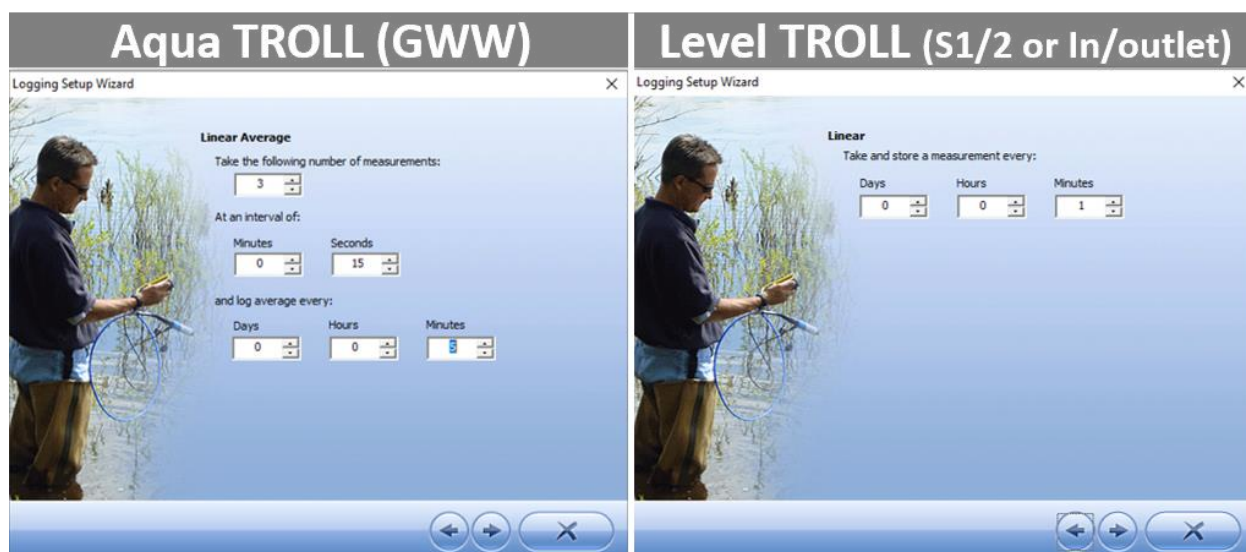

Figure 15. Set the Number of Measurements for each respective TROLL
7. Set up the number of measurements for the Aqua TROLL or Level TROLL (Figure 15).